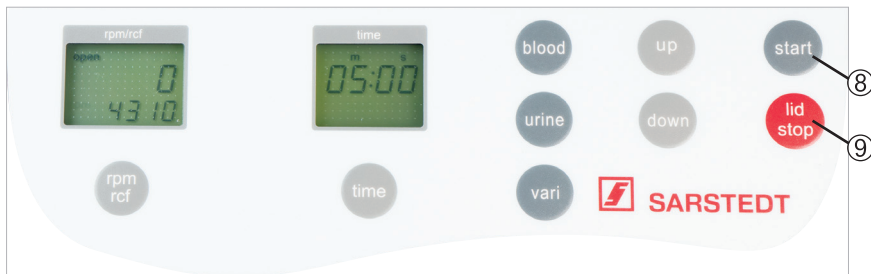

Figure 16
A run can be interrupted with the “lid/stop” key (9) (see Figure 16). After the key has been pressed, the centrifuge brakes to a stop.